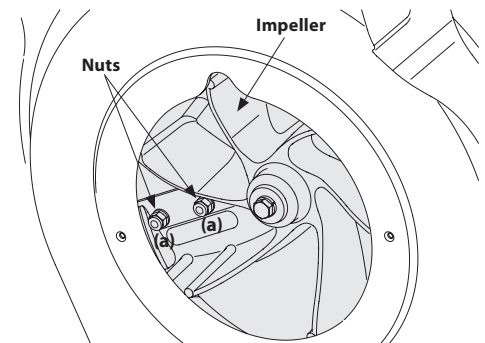

Figure 25
- The nuts (a) on the flat head cap screws can be reached from underneath using a 1/2-inch socket, universal and extension. See Figure 25.